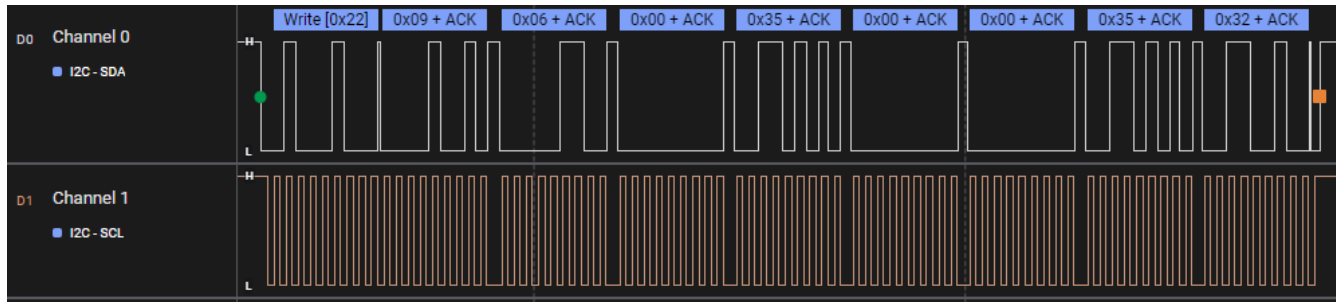

Figure 4-6. Patch Burst Mode Initialization
- b. Bytes 0 to 3 are the patch bundle size. In Figure 4-6, the patch bundle size is 0x3500 or 13568 bytes. Byte 4 is the DATAx.SlaveAddress you want to assign for data transmission. 0x00 or the device's I2C slave addresses (0x22/0x26 or 0x23/0x27) of the PD controller are not valid. Figure 4-6 shows a random address, 0x35, was selected and used.